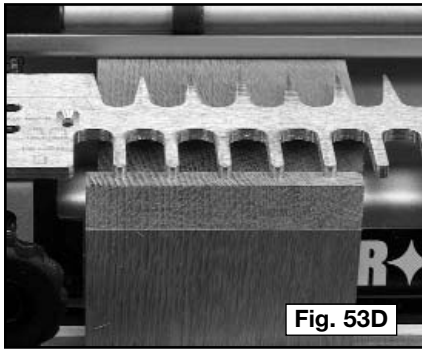

Fig. 53D
- Step 2** - If you use the template mounted to the base of the jig, mount the board with the outside face toward the base of the jig. Center the edges of the board between two fingers (Fig. 53D).